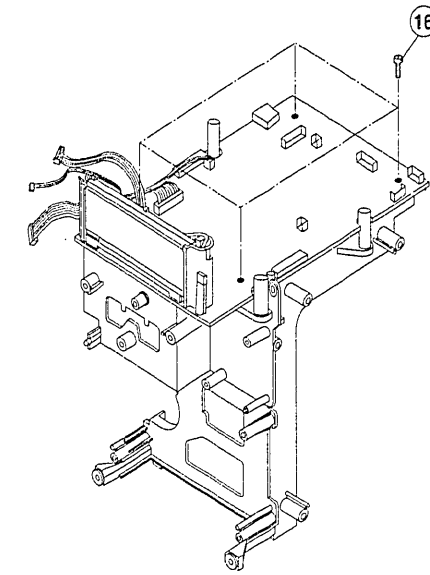

Fig. 13
- (1) Remove 4 screws ⑯, and remove the cassette mechanism from the Main Chassis, and then disconnect 1 connector ⑰.
12. **Removal of CD P.W.B (Fig. 13)**